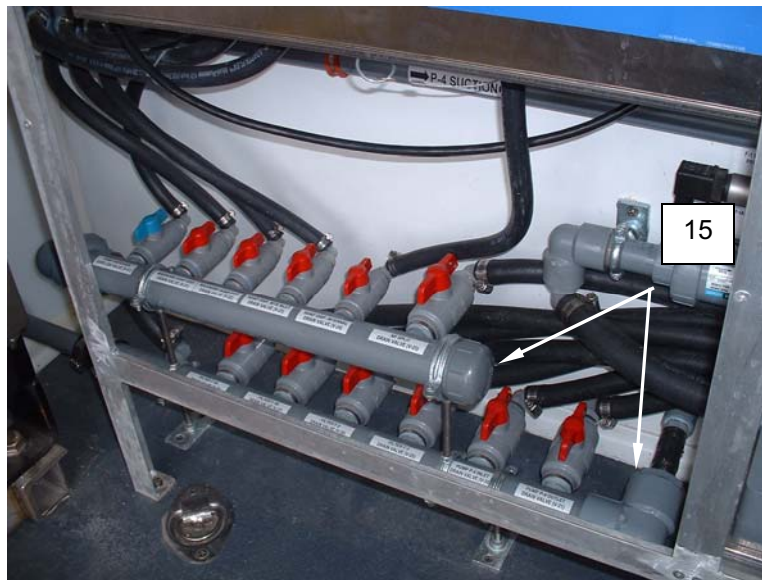

Figure 15. Sodium Bisulfite Preservation Procedure.
16. Open all valves on the drain manifolds (Figure 15, Item 15).